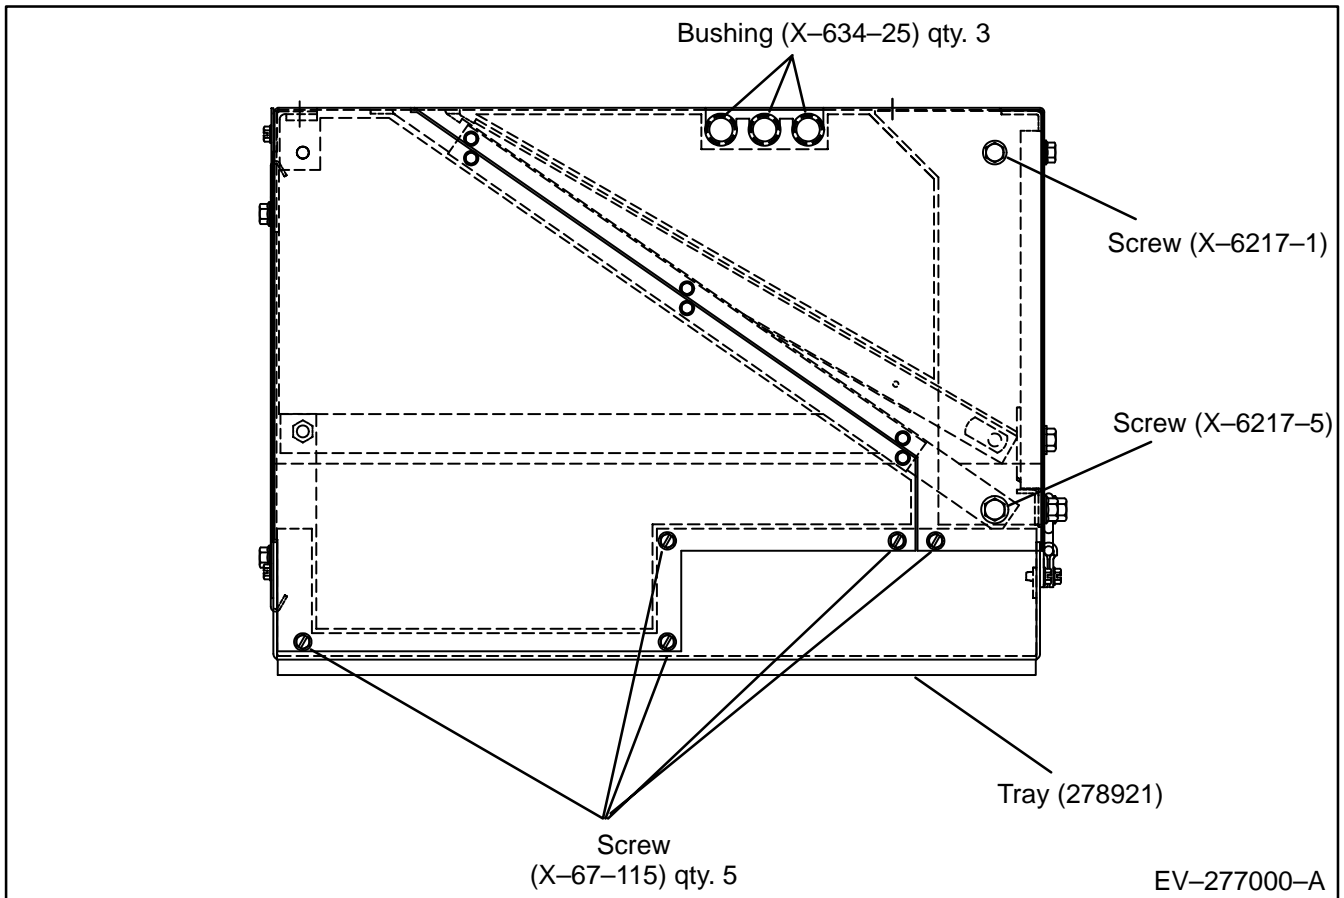

Figure 2C. Installation Drawing (Side View)
14. Install bushings (X-634-25) at positions shown in Figure 2C.